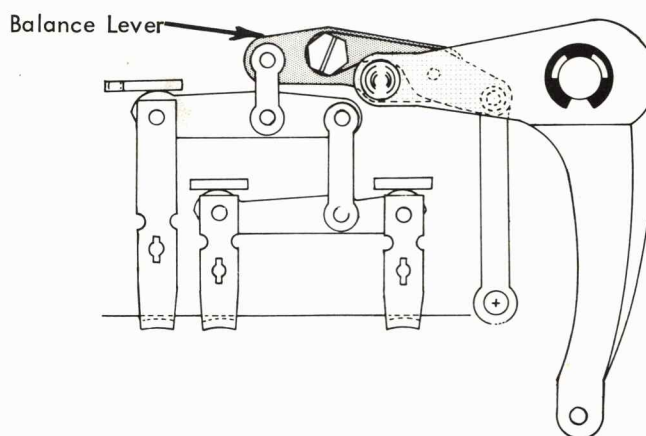

FIGURE 75. Balance Lever Adjustment
9. Balance Lever - With the machine in upper case loosen the lock nut on the balance lever and move the right hand member of the balance lever (Fig. 75) left or right until a half-cycled +5/-5 (I/O home) combination detents (coarse aligns) the same as a half-cycled zero rotate character. The combination can easily be obtained by holding the negative-5 select magnet armature.